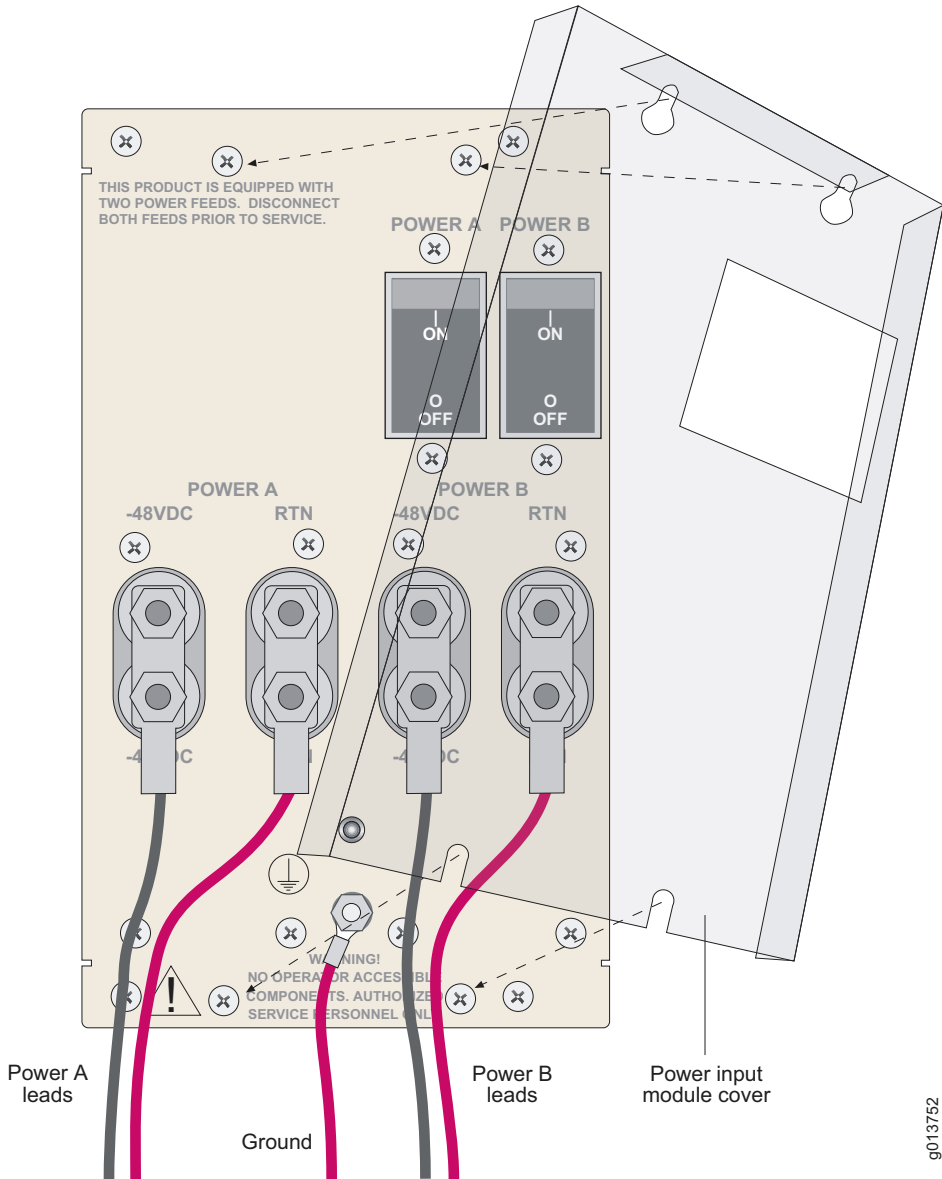
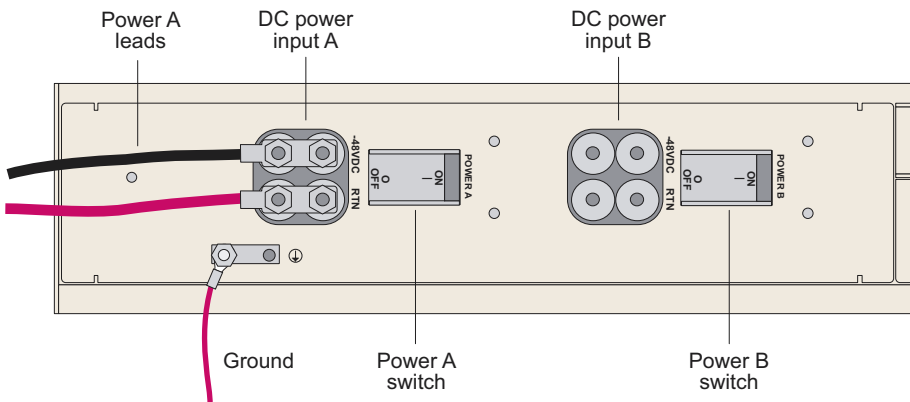
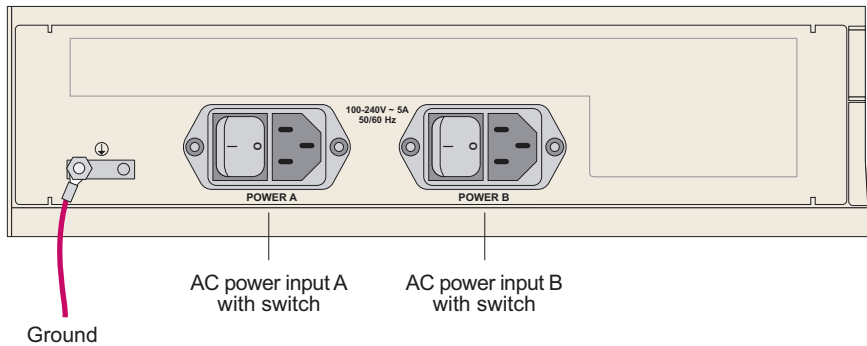

Figure 6-4 ERX-14xx model, power input module
Figure 6-5 ERX-310 router, rear view (DC model)
Figure 6-6 ERX-310 router, rear view (AC model)
See Chapter 11, System Specifications for the power requirements for the E-series router. Table 6-3 identifies the power input module cabling requirements, and Figure 6-4 shows the main components of a power input module.
- 1 Locate the grounding studs on the E-series router (see Figure 6-4 and Figure 6-5).
To connect power cables to an E-series router, follow these steps. Refer to Figure 6-4, Figure 6-5, and Figure 6-6 as needed.
- 1** Insert the power cord into the AC power IEC receptacle (see Figure 6-6).